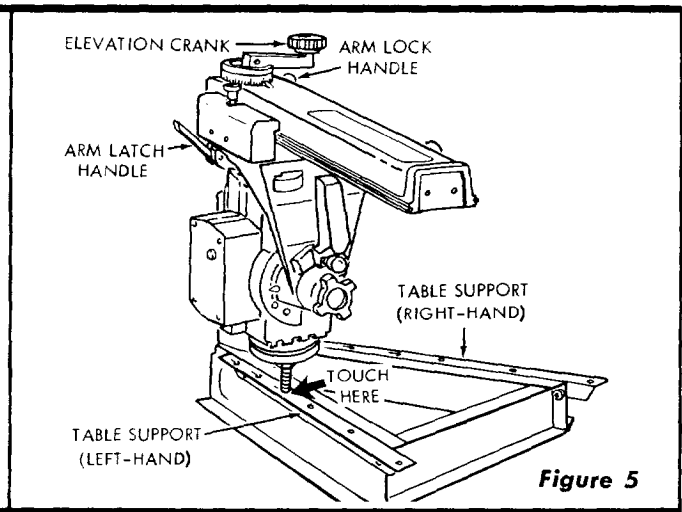

Figure 5
- c. Using the elevation crank (figure 5), raise the motor high enough to swivel 90° , as described in the next step.
- e. Loosen the arm lock handle (at upper right-hand side of column) and release the arm latch handle (figure 5).